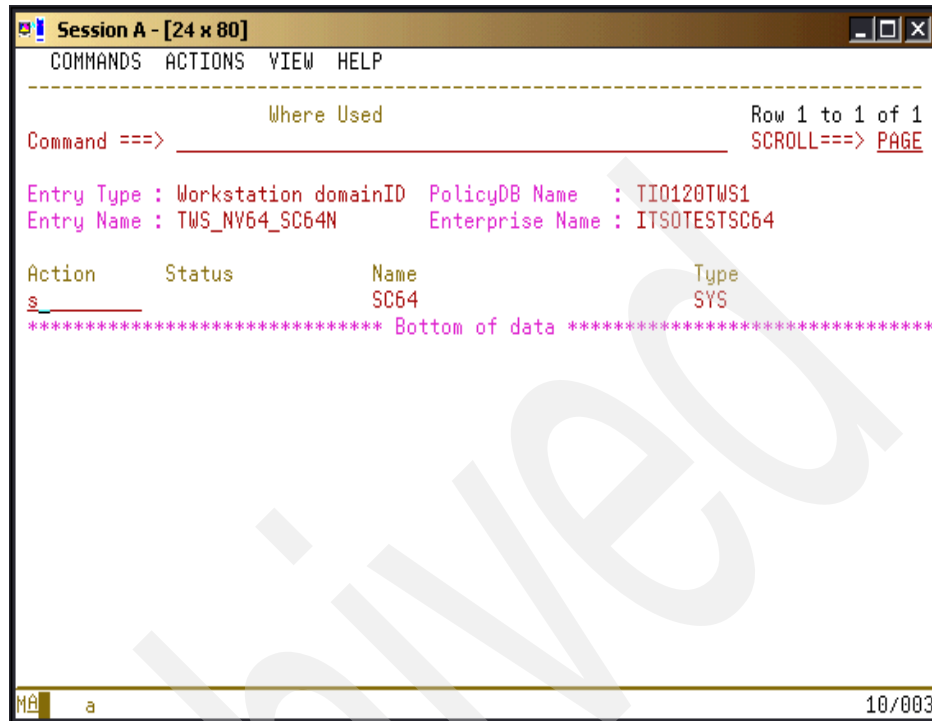

Figure 4-69 Workstation domainID Where Used panel
7. Press **PF3** to return to the Entry Name Selection panel. Place an s in the action column next to Where Used. The Where Used panel that is shown in Figure 4-69 on page 176 displays.